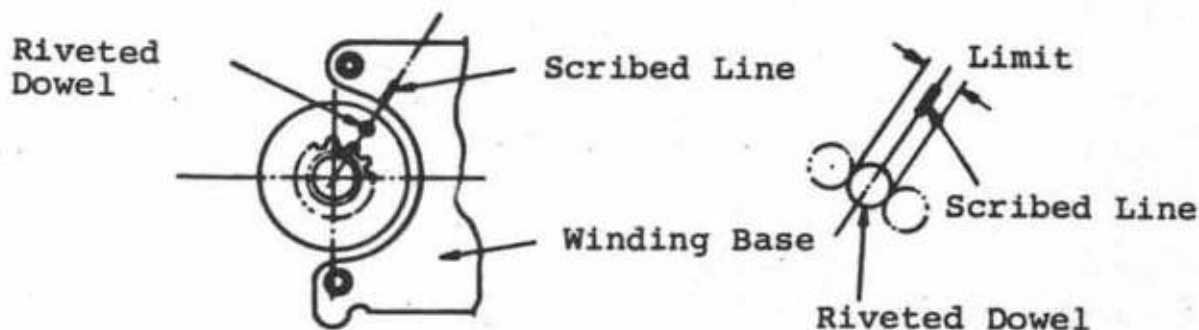
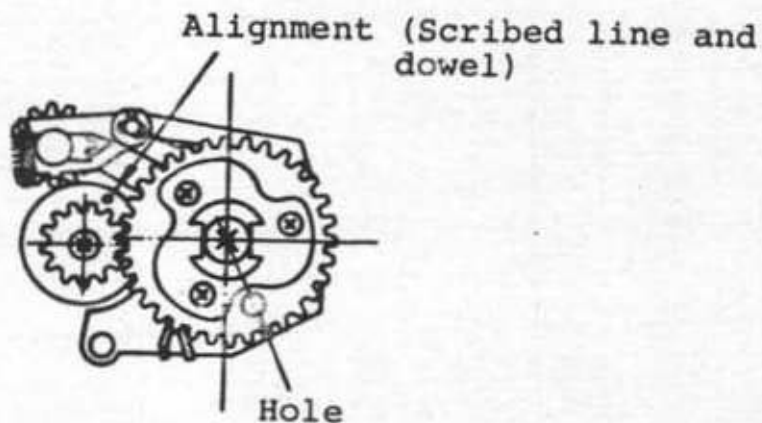

Fig. 2-15
Fig. 2-20
(CF1-0231-000) as shown in figure 2-15. The limit is $\pm 1/2$ the dowel diameter.
2. Recheck the alignment of the dowel and scribed mark detailed in section 2.13 (Fig. 2-15) after having installed the charge gear with the screw access hole positioned as shown in figure 2-20. Adjust to maintain the position by selecting a charge gear that gives the correct alignment.